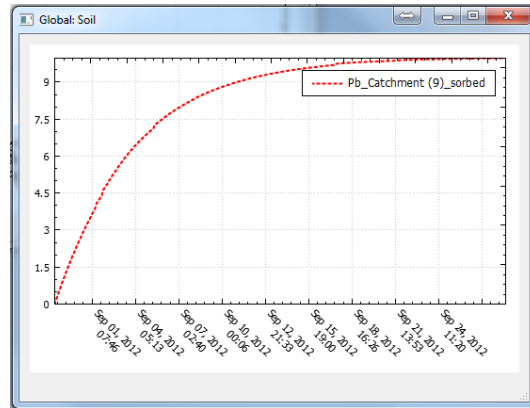

Figure 4.20: Concentration of Pb accumulated on the surface for the case when solid-water exchange is inactive
9. Right-click on one of the catchment blocks and click on **Plot water quality results**→**Sorbed/particle associated**→**Pb**→**Soil** to see the temporal variation of Pb accumulated on the surface. The results should look like Figure 4.20. As it can be seen the concentration asymptotically approach $10mg/m^2$. The concentration of Pb in the runoff is zero due to the fact that no release properties have been attributed to Pb.